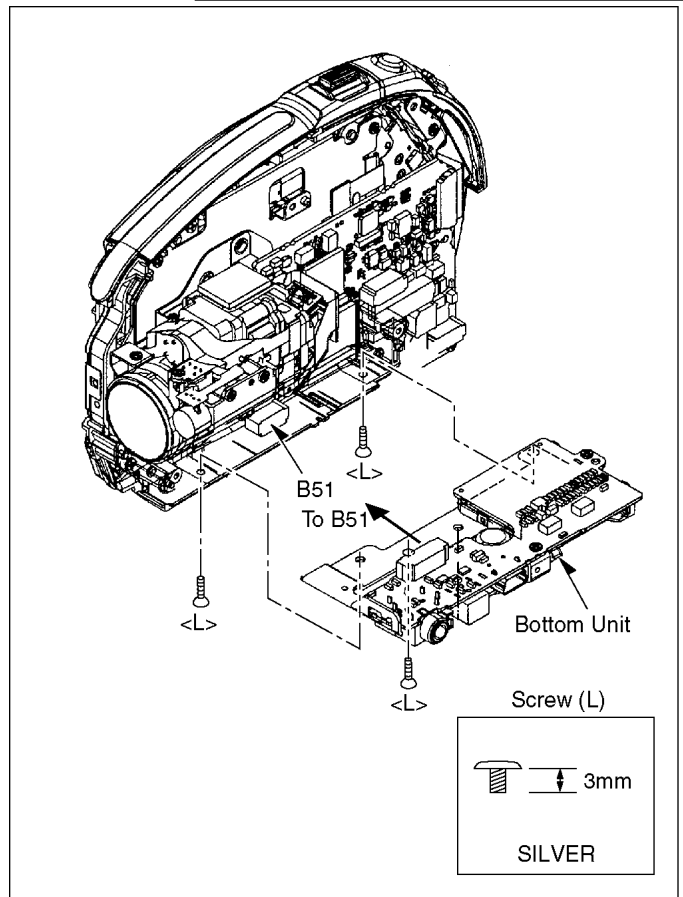

Fig. D7
| 5 | Bottom Unit | Fig. D7 | 3-Screws (L) 1-Connector B51 Bottom Unit |